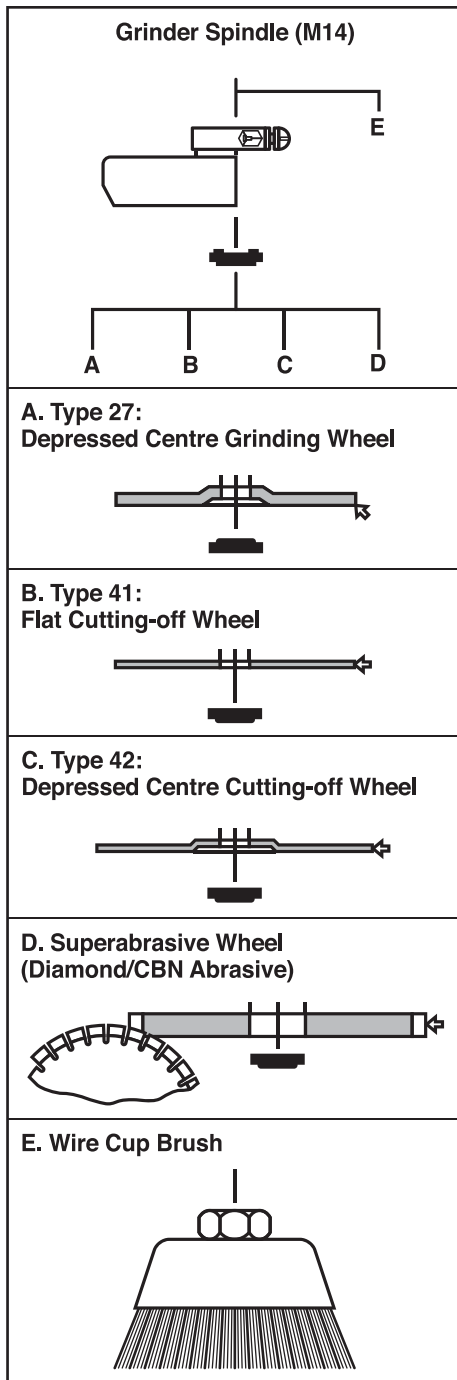

FIG.4
8.3 FITTING/REPLACING ACCESSORIES (sold separately) – FIG. 4
B, C, D (FIG.4):
- Press and hold the spindle lock button (3). Loosen the locking flange (4) anti-clockwise using the pin spanner (7) supplied.
- When fitting the appropriate accessory please refer to (Fig.4) for specific details on the locking flange correct orientation as applicable.
- After placing the accessory, securely tighten the locking flange clockwise using the disc changing spanner (7) while holding down the spindle lock (3).